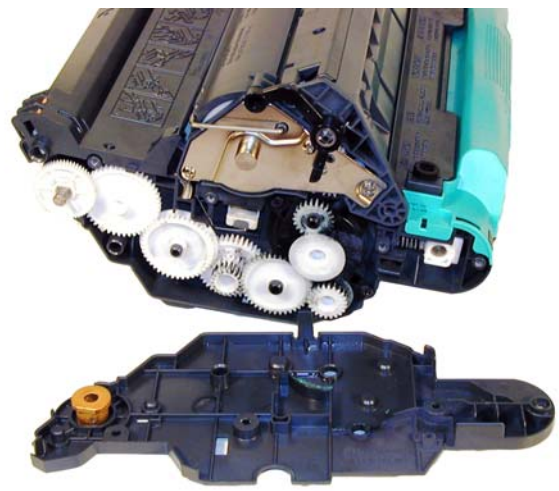

Figure 6
4) Remove the end cap. Watch the large copper contact hub. It will come loose also. See **Figure 6**